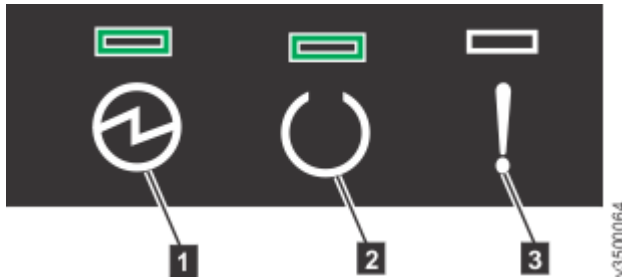

Figure 143. Expansion enclosure LEDs
2. From the rear of the rack, check the LEDs on each expansion enclosure (see Figure 143 on page 128).